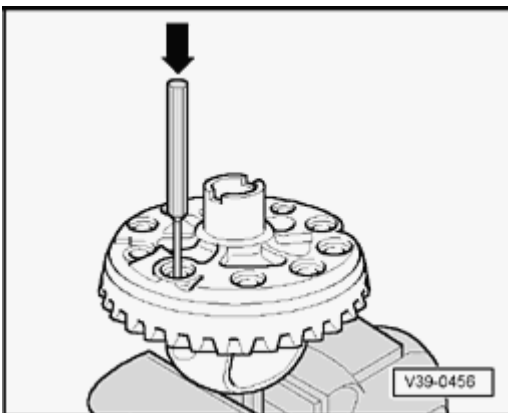

**Fig. 84: Driving Out Ring Gear From Housing**
- Drive off housing with a drift. See Fig. 84